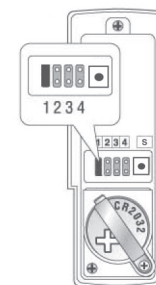

Fig 5
2. The house codes are set by a row of four black jumper connections located on the rear of the Push Button unit (Fig. 5). These jumpers are labelled 1, 2, 3, 4 respectively and can be altered by removing selected jumpers to give sixteen separate codes.